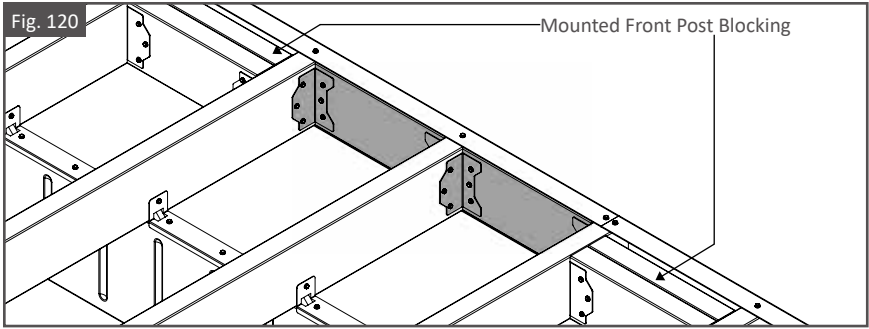

Fig. 121
6. Cut one Joist to 48" [1219mm] length. As shown in Fig. 121.